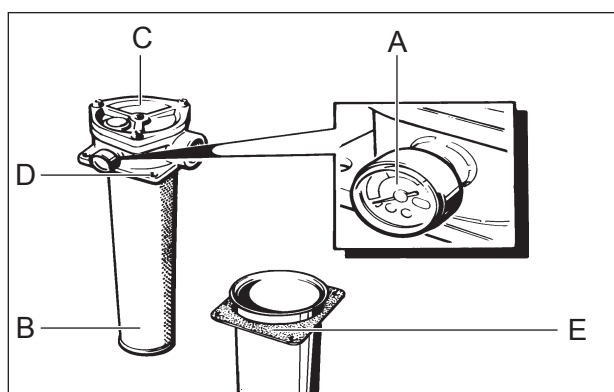

Figure 9.24 - Return Line Filter
5. Check the return line filter blockage indicator (A), Ref: Figure 9.24.